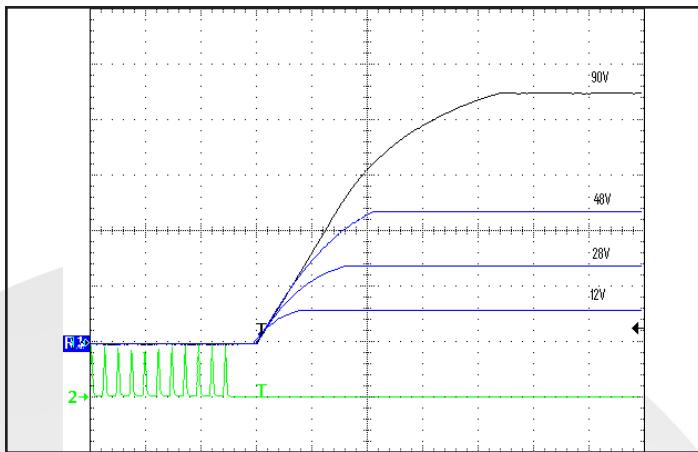

Figure 7: Turn-on transient at 48V input; full load (10ms/div). Top Traces:  $V_{out}$  (20V/div). Bottom Trace: ON/OFF input (5V/div)
**REMOTE ON/OFF:** Only Negative On/Off logic is available in the converter series: logic high at the input turns the converter Off while a logic low turns it On. Timing of this is shown in Figures 7, 8. A high level can be driven to any voltage between 1.5V and 3.3V, or simply left floating as the unit contains an internal  $25K\Omega$  pull-up to 5.0V. The pin can be pulled low (to  $V_{out-}$ ) by an optocoupler, an open-source/drain transistor or wired permanently to  $V_{out-}$ . To provide noise immunity the input has 0.3V of hysteresis.